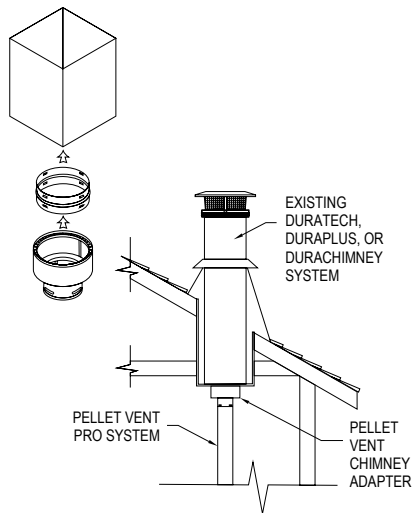

Figure 7
6. If it is desired to attach to an existing 6", 7" or 8" DuraTech, DuraPlus or DuraPlus HTC chimney, either roof supported, or ceiling supported: (**Figure 7**).
C. Install a DVL/DuraBlack Chimney Adapter - product stock numbers (6") 8674, (7") 8774, or (8") 8874 - in the existing ceiling support box, as shown in **Figure 7**. Note that the DVL/DuraBlack Chimney Adapter only connects to Simpson Dura-Vent chimney systems.
Length up and twist lock it to the Chimney Adapter. Once all the components are firmly seated and properly aligned, carefully drill three 1/8" diameter holes through the outer sleeve only in the center of the slots located at the bottom of the Adjustable Length pipe. Do not penetrate the inner liner. Use (3) 1/4" length sheet metal screws to secure the Adjustable Length pipe. The completed installation will look like **Figure 7**.